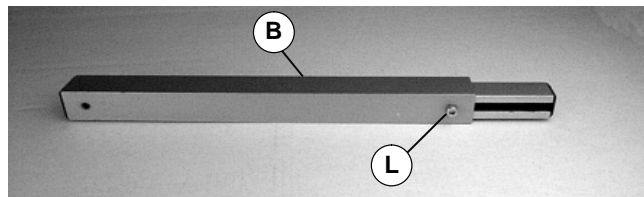

Figure 15
1. Loosen screw (L of Figure 15) of adjustable bar (B).